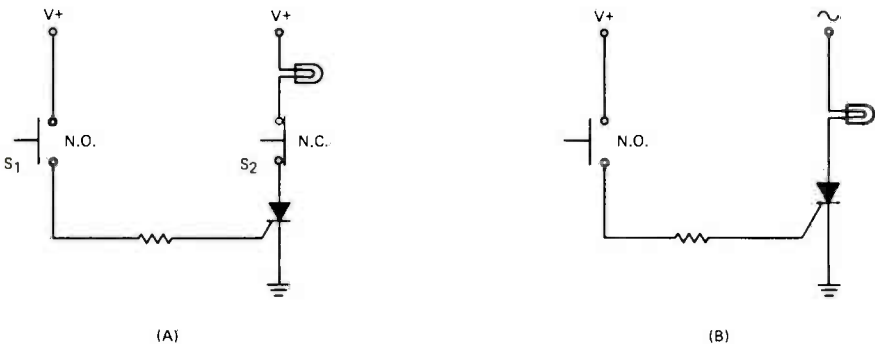

FIGURE 3. BASIC SCR CIRCUITS.
Figure 3(A) shows how this basic property of the SCR is used to form a simple latching circuit. In this circuit, switch S_1 is a normally open pushbutton, while S_2 is a normally closed pushbutton. Note that the voltages applied are dc, and positive with respect to the cathode. When power is first applied, nothing happens because there is no gate current, and thus the SCR will not turn on. The device is now said to be in its *forward blocking state*. The voltage between anode and cathode is of the correct polarity, but the device is blocking the flow of current because no gate current has been received.
Figure 3(B) is a variation of the previous circuit. Note the differences: the normally closed pushbutton has been eliminated, and the supply voltage to the lamp (and thus to the anode of the SCR) is now ac. *It is precisely because the supply voltage is now ac* that the normally closed pushbutton is no longer required to turn off the SCR. In this case, the SCR will fire whenever the pushbutton is closed and the supply voltage is positive. But, as soon as the supply voltage goes to zero, or becomes negative, the SCR is automatically turned off because forward current through the anode-cathode circuit has dropped below the holding current level. Since the ac frequency is relatively high, normally 60 Hz, the lamp will appear to turn on and off as the button is pushed and released. Of course, there is actually some slight delay, as the turning on and off is synchronized with the polarity of the applied ac voltage. Again, this circuit looks very simple, but it is a key to understanding how the SCR functions in ac circuits.